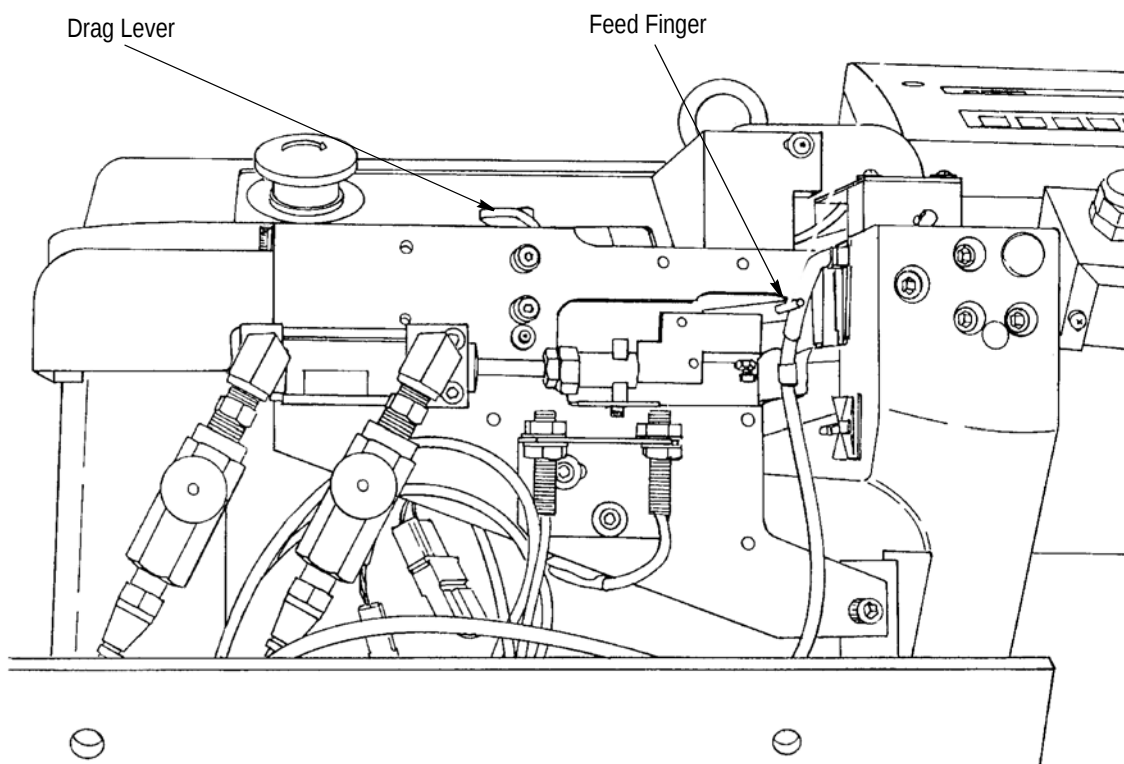

Figure 15
4.3. Terminal Strip Loading (Refer to Figure 15)**DANGER**